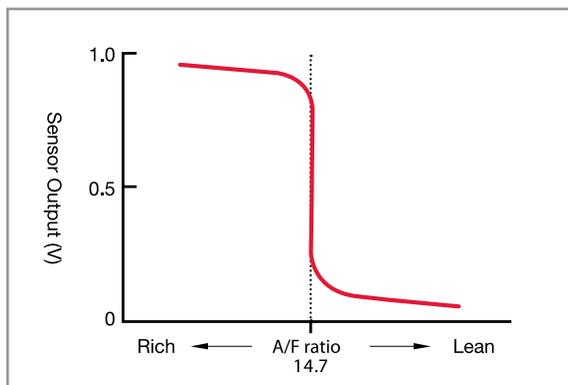

Fig. 6: Zirconia Sensor Output.
- > A **Zirconia Sensor** outputs a small voltage between 0V and approx 0,8V, switching from low to high at around Lambda 1.00 (Fig. 6).